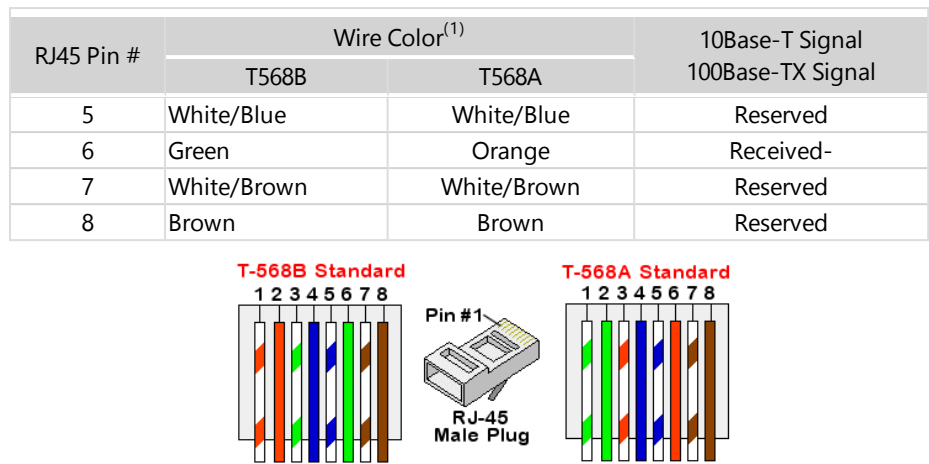

Figure 34: Standard cable wiring
- c. Insert the eight wires into an RJ45 connector, as described *Figure 34*.
- e. Connect the Ethernet connector to the RJ45 port on the communication board as shown in *Figure 34*.